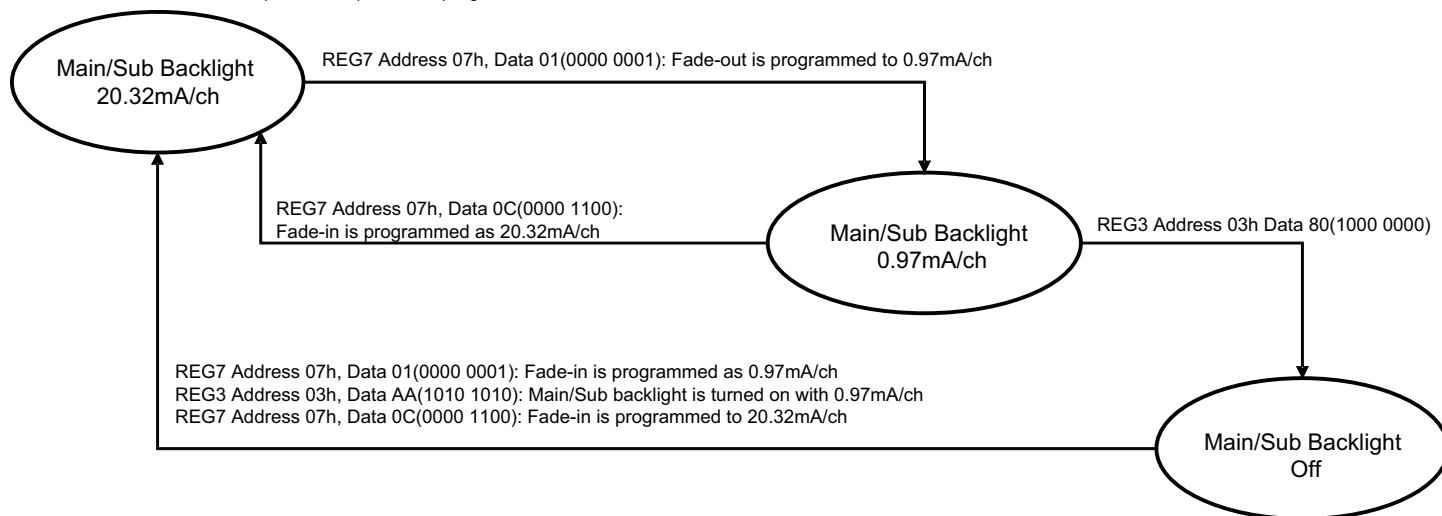

Figure 6: Example of AAT2862 Fade In/ Out Programming.
**Main and Sub (as shown in Figure 6):**